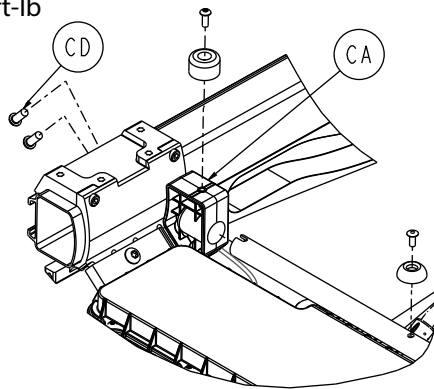

Figure 84 – Remove the Gatch bumper housing
7. Using a T27 Torx driver, remove the two button head cap screws (CD) that secure the Gatch bumper housing (CA) to the hitch bracket (Figure 84). Remove and save the Gatch bumper housing. Save the screws. Repeat on the other side.